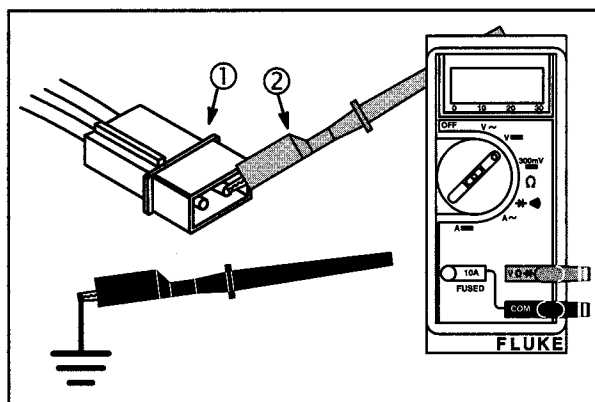

Fig. 41
1. With key switch **OFF**, disconnect equipment wiring harness connector (1) from engine wiring harness.
2. Attach RED meter test lead (2) into equipment wiring harness connector (1) (side opposite raised rib).
3. Attach BLACK test lead to a good ground, **Fig. 41**.